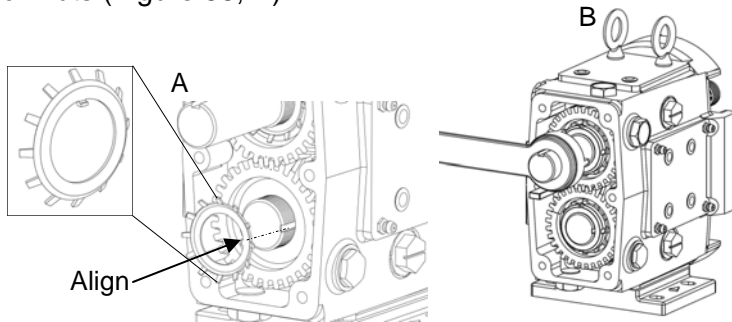

**Figure 57: Installing Gears with Correct Timing**
8) Once the gear keys are installed, orientate the shafts so that the keyways on the drive shaft are pointing in the 12 o'clock direction (Figure 57, A). Slide the right-handed gear with the single punch mark onto the drive shaft. Slide the second gear with two punch marks on the short shaft. To time the gears, align so that the single punch mark falls between the two punch marks on the opposite gear (Figure 57, B).